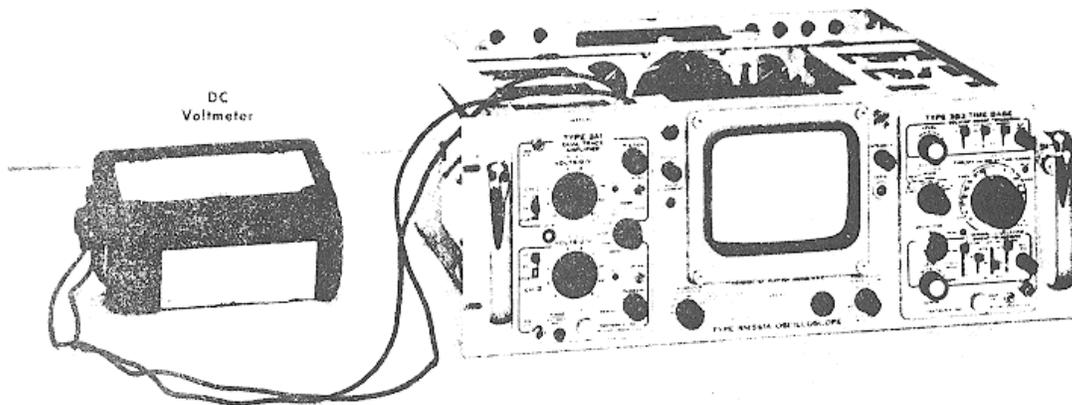

Fig. 6-23. Test equipment setup for checking CRT vertical and horizontal sensitivity.
- a. Test equipment setup is shown in Fig. 6-23.